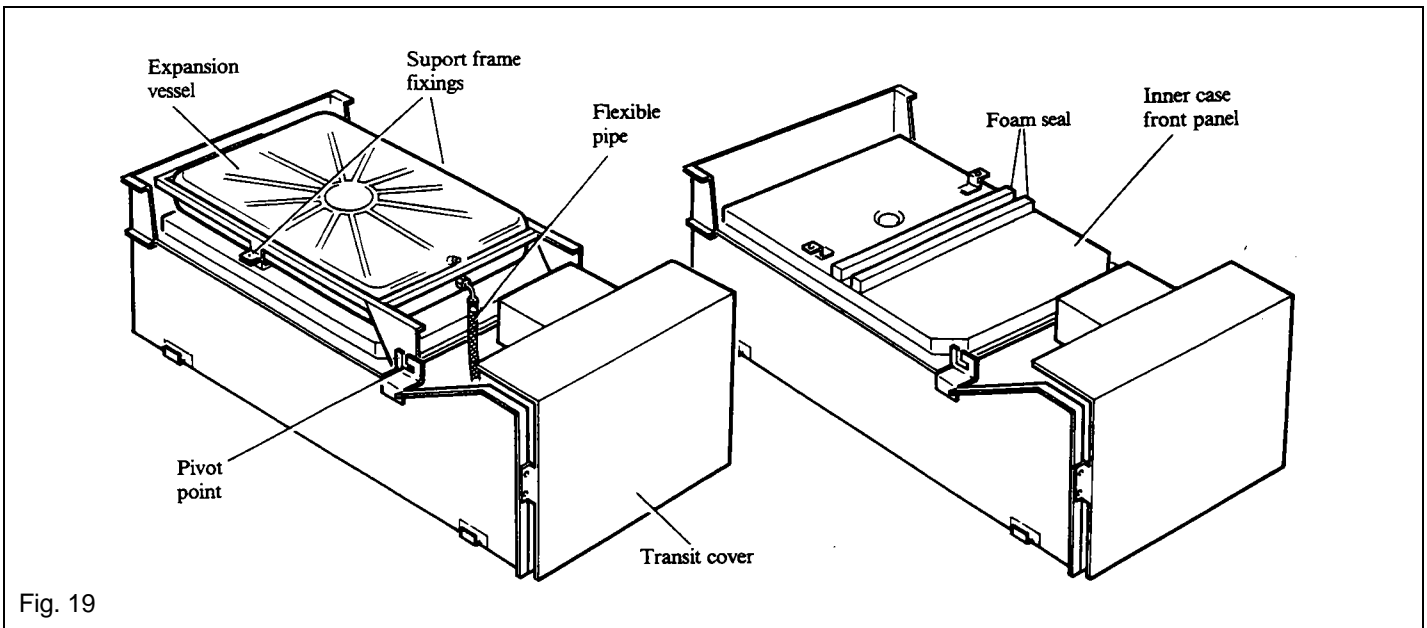

Fig. 19
Refer to Figs. 19 and 20.
1. Disconnect the flexible pipe connection to the bottom of the expansion vessel, take care not to lose the washer. Remove the two screws securing the expansion vessel support frame to the inner case front panel. Holding the vessel and frame swing them out to clear the boiler. Remove the frame and vessel from the boiler by lifting the frame out of its bottom pivoting point. See Fig. 19. Cut the foam seal in two and stick onto the inner case
front panel just below the depression. See Fig. 19.
2. Remove the four screws (two at the top and two at the bottom) securing the inner case front panel and lift off the panel. See Fig. 19.
6. Remove the four screws securing the transit cover to the bottom of the boiler, see Fig. 19 and discard the cover and screws.